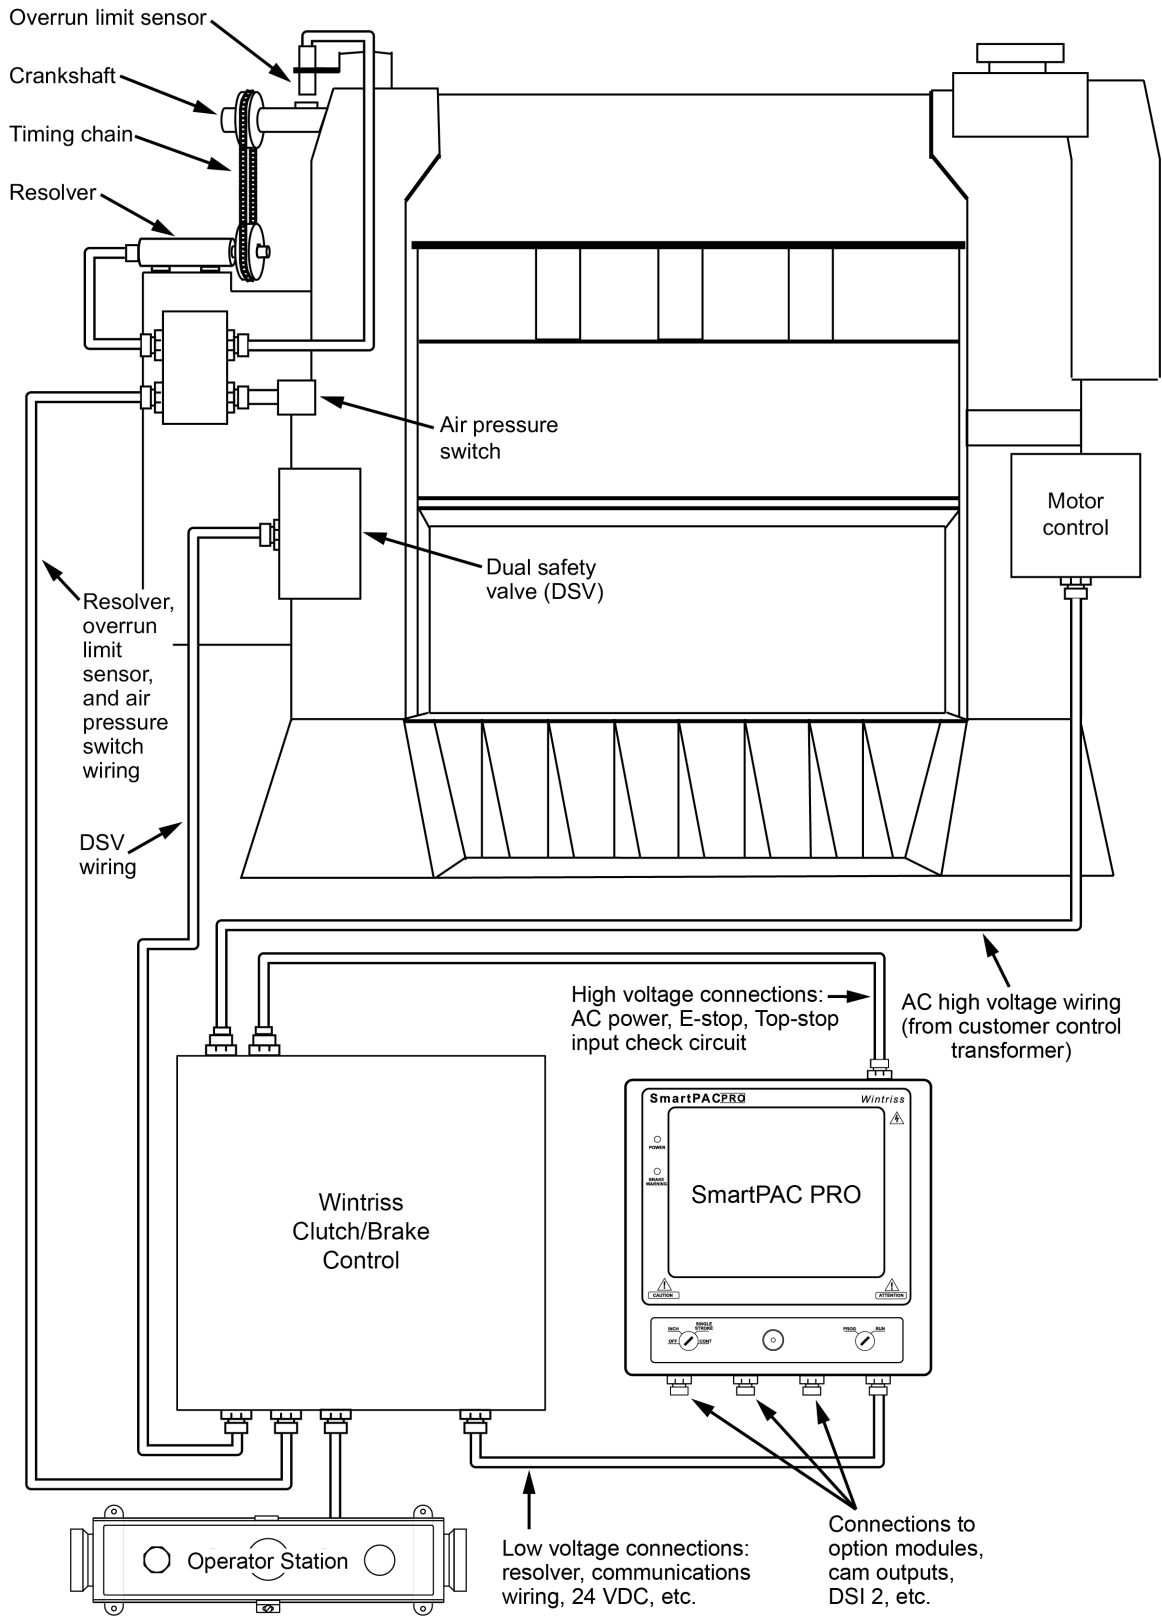

Figure 1-1. Installation Overview
- See the installation overview, *Figure 1-1*, next page.